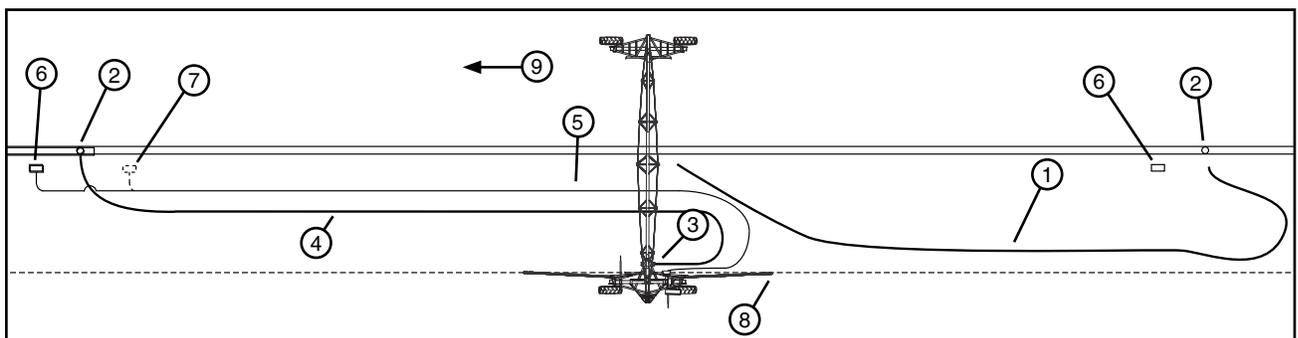

Figure 57-2 1. First Hose 4. Second hose 7. Alternate Power Pedestal and Electric Cord Position
22. Disconnect the first hose from the shut off valve so that water from the hose drains away from the cart path. Then unlatch and disconnect first hose from tee inlet. See Figure 57-2.
23. With second hose connected to shut off valve, position second hose, connect to tee inlet, and latch in place. Reposition the end of field/hose stop post for the length of the second hose being used. See Figure 57-2.
- (c) Position the electric cord far enough away from the hose and furrow guidance skid, so that the hose or furrow guidance skid will not drag over it. When applicable, prevent interference between the electric cord and hose by positioning the electric cord over the top of hose. See Figure 57-2.